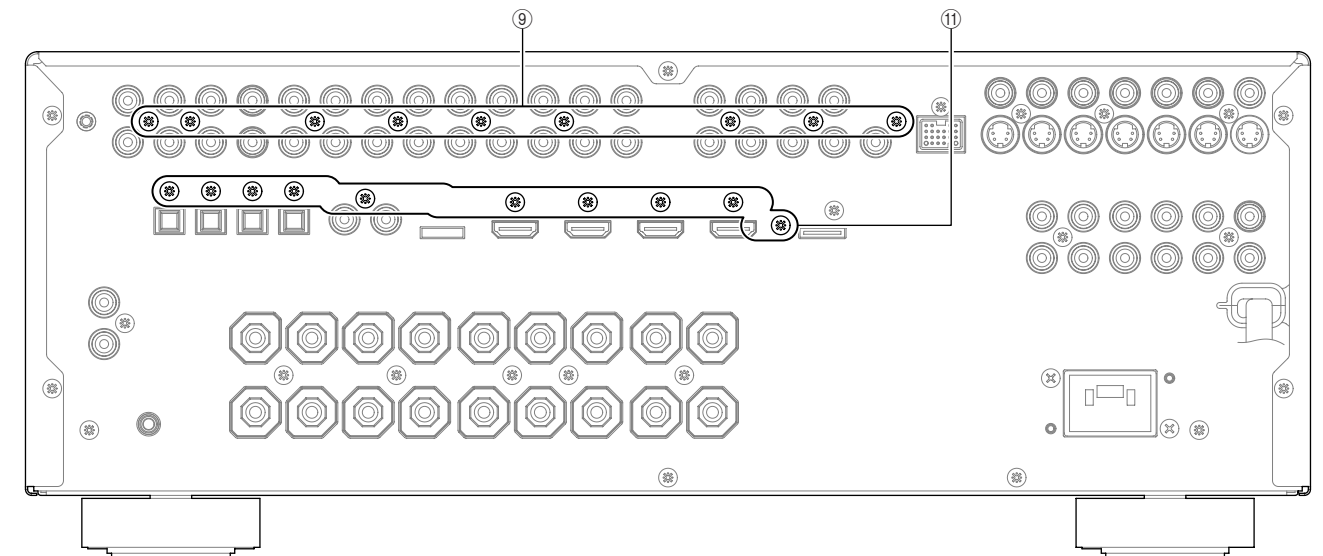

Fig. 3
- Remove 10 screws (RX-V863: U, C, R, T, K, A, G, E, F, L models / HTR-6180: U, F models) / 9 screws (HTR-6180: C model / DSP-AX863SE: B model) (⑨). (Fig. 3)
- Remove 12 screws (RX-V863: U, C models / HTR-6180: U model) / 10 screws (RX-V863: R, T, K, A, G, E, F, L models / HTR-6180: C, F models / DSP-AX863SE: B model) (⑪). (Fig. 3)
- ⑨のネジ9本を外します。(Fig. 3)
- ⑪のネジ10本を外します。(Fig. 3)